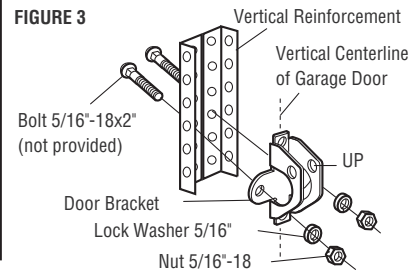

FIGURE 3
- Alternately, use two 5/16" bolts, lock washers and nuts (not provided). (Figure 3)